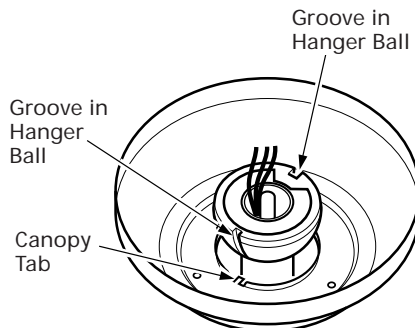

Figure 5b - Canopy Tabs and Grooves in Hanger Ball
3. For Standard and Angle Mounting only: In addition to sub-steps 1 and 2, lift the fan housing towards the ceiling and rotate the fan until each canopy tab engages a groove in the hanger ball as shown in Figure 5b.